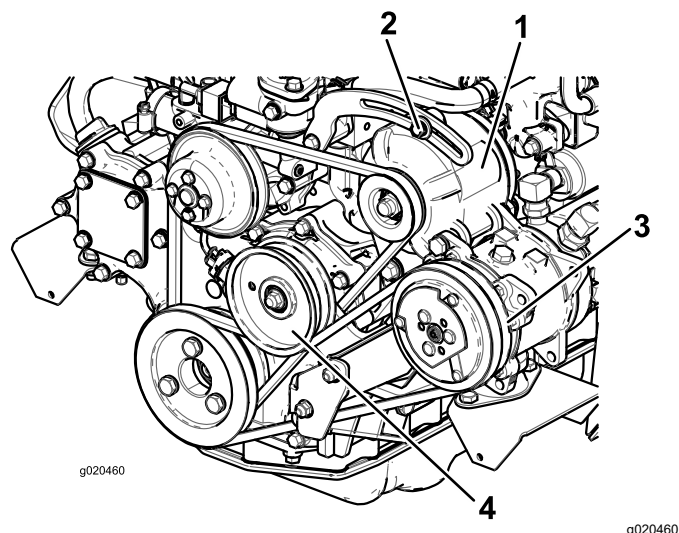

Figure 112
If the deflection is not 10 mm (3/8 inch), loosen the alternator-mounting bolts (Figure 112).
2. If the deflection is not 10 mm (3/8 inch), loosen the idler pulley mounting bolt (Figure 112).